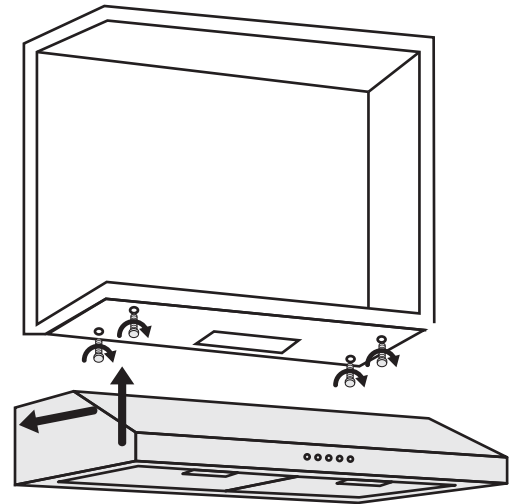

Figure 6
- Using measurements provided on Page 7, measure and drill four holes into bottom of cabinet (see Figure 6).
- Align range hood to the holes in the bottom of the cabinet and screw in (see Figure 6).